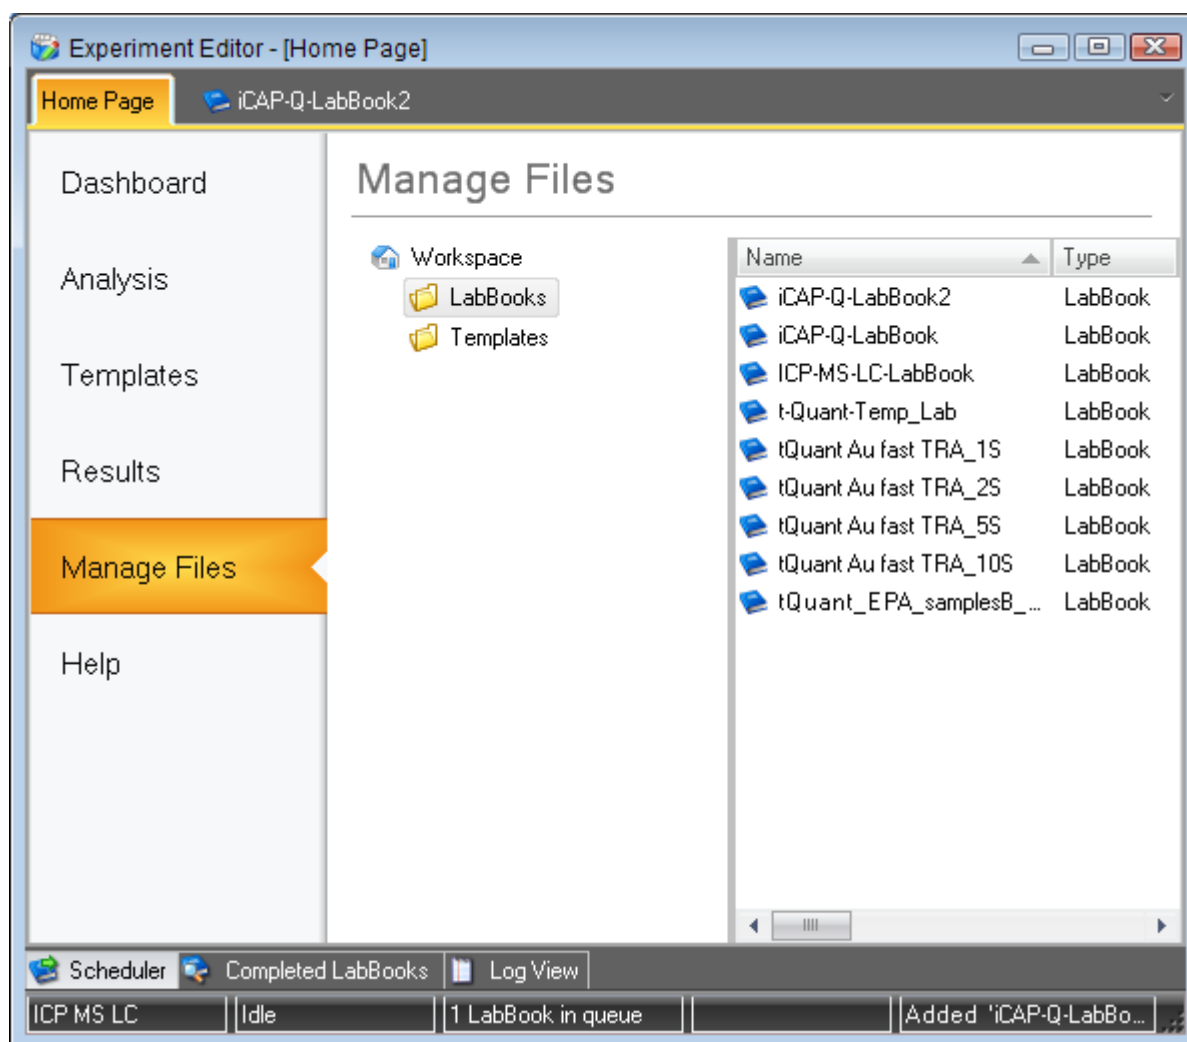

Figure 5-15. Manage Files - LabBooks
3. Click the **LabBooks** folder (or the subfolder for the LabBook you wish to delete), see Figure 5-15.